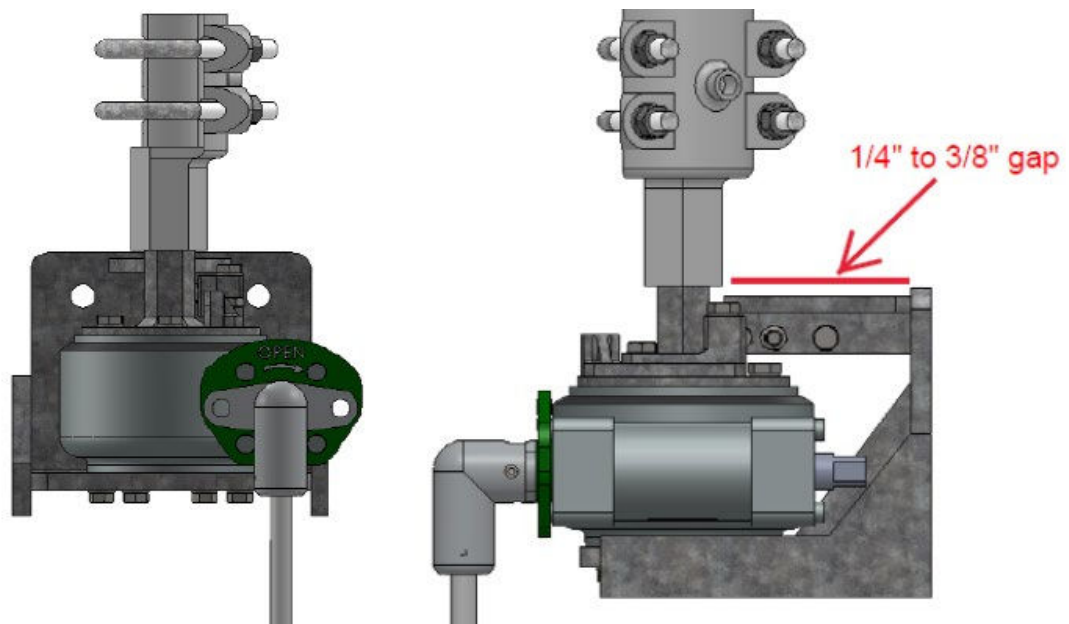

Figure 20: Type SEGO (Safety Enhanced Gear Operator)
2.2.1. The weight of the vertical operating pipe should be supported by pipe collar (**Figure 20**) by maintaining the 1/4"-3/8" gap.
2.2.2. When the switch is properly adjusted the operator handle should hang freely in both the open and closed positions to permit the use of the customer supplied padlock. Refer to **Figure 20**.